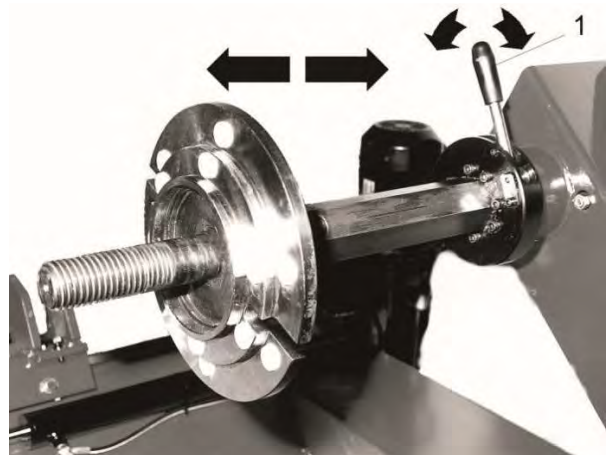

Fig.16
F. The hexagonal shaft can be locked in 3 different positions. Operate the chuck shaft lock/release lever (#1 Fig.16) and slide axially the shaft. Make sure that the shaft is properly locked in position.